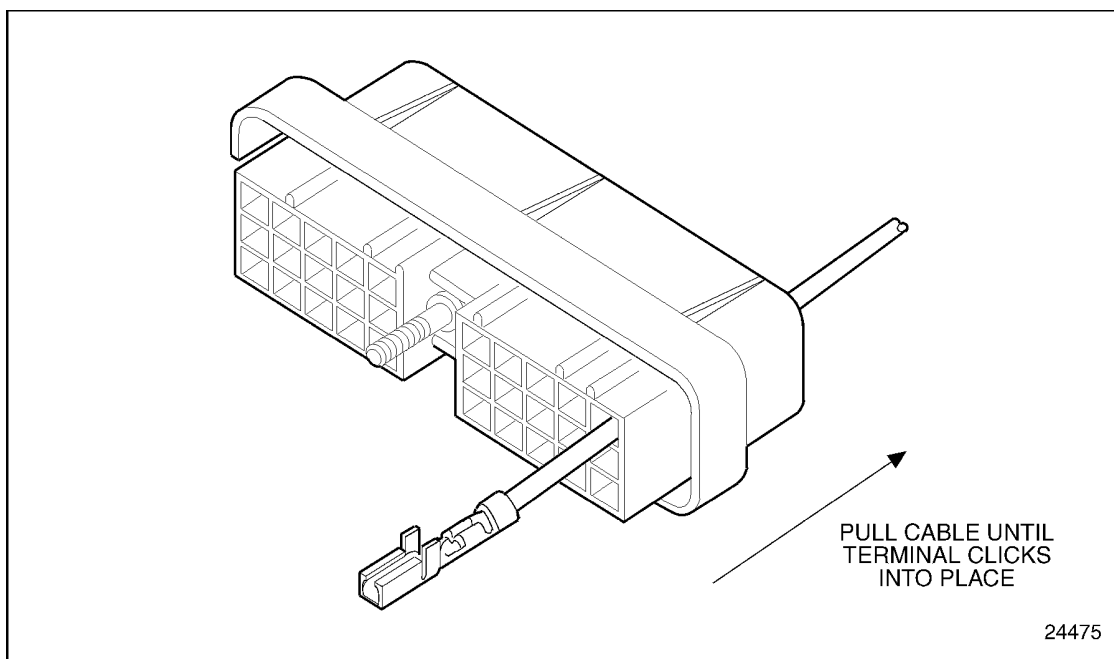

Figure 8-24 **Pulling the Terminal to Seat**
10. Pull the cable back through the connector until a click is heard. See Figure 8-24. Position the seal into the connector.